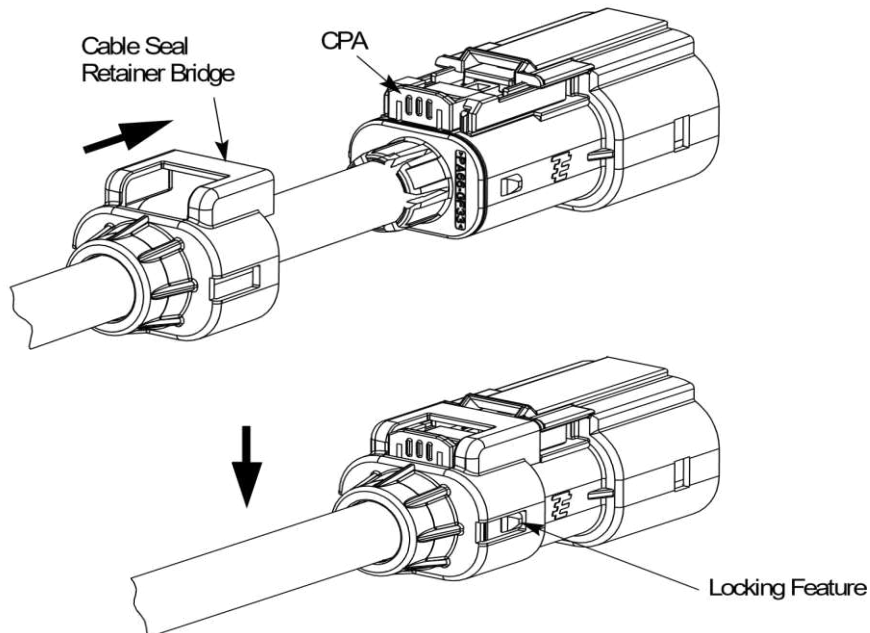

Figure 19
18. Slide the cable seal retainer forward on the cable and over the cable exit end of the connector assembly until it fully locks to the connector outer housing. A slight rotation of the cable seal retainer may be required to get the bridge portion over the CPA. Visually check to ensure that both locking features are engaged and the CPA is in the correct position as shown in Figure 19. Gently pull back on the cable seal retainer to check that it is fully locked in place.